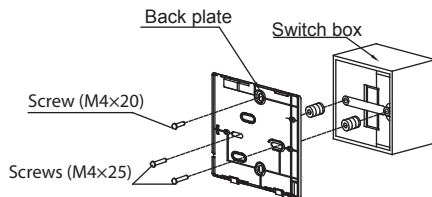

Fig 3-6
- For switch box mounting, fasten the back plate on the switch box with 2 screws (M4x25) and fasten it on the wall with 1 screw (M4x20). (Fig.3-6)